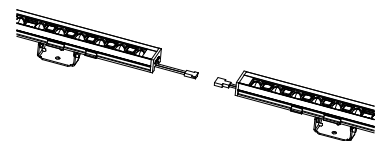

Figure 3
1. Fixtures can be quickly spliced through terminals (there will be voltage drop/brightness decrease over 5m); As shown in Figure 3.